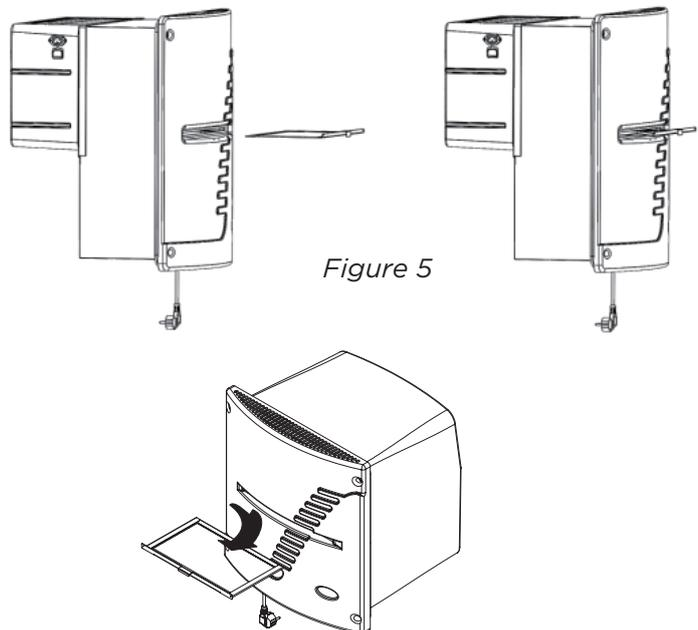

Figure 5
- Unscrew the 4 screws on the front cover and remove it (fig 5).